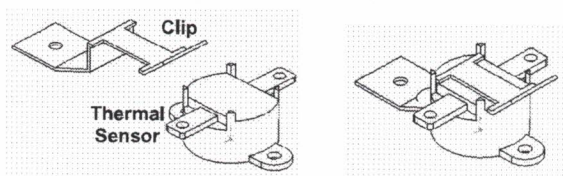

Figure 42 - Thermal Sensor Installation
12. The thermal sensor clip is located beneath the firebox floor near the center. Slide the thermal sensor into the clip until it snaps in place. Make sure the terminals on the thermal sensor are perpendicular to the clip. *Figure 42*